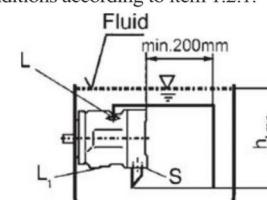

Fig. 3
- If the minimum fluid level is above the top of the pump, port "L₁" closed, "L" and "S" should remain open, L piped and recommendation S piped (see Fig. 3)